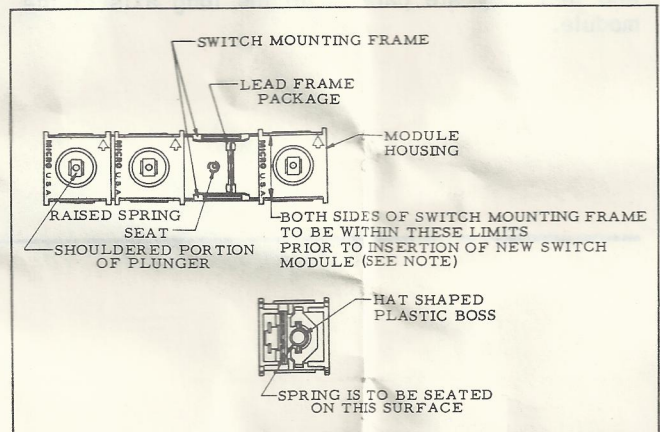

Figure 3
If the switch mounting frame has been distorted, during the removal of the module housing, it should be formed back to the position shown in figure 3 before installing the replacement module.
2. Refer to figure 3. Insert the module in the keyboard switch mounting frame. (Be sure that the orientation arrow on top of the module housing is pointed in the same direction as the other modules in the row.) As the module is installed make sure the return spring seats on the raised boss on the bottom of the mounting frame and the four terminals extend through the printed circuit board. Once the switch module has been installed check for the following conditions: